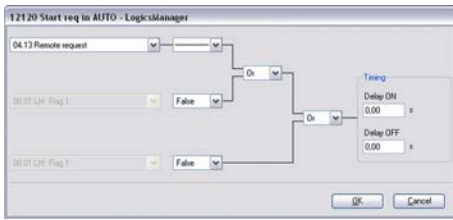

Fig. 180: LogicsManager function "Start req in AUTO"
3. ➤ Configure the LogicsManager function "Start req in AUTO" as shown in ( Fig. 180).